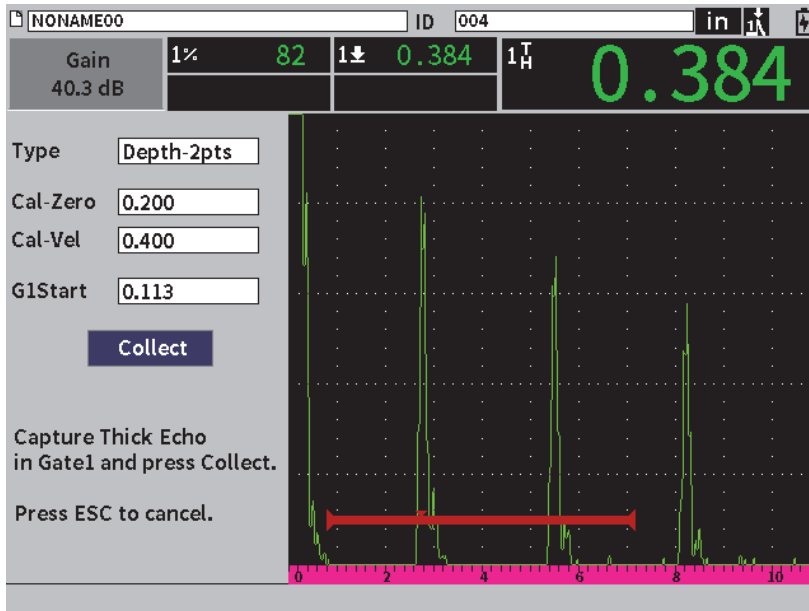

Figure 8-6 Calibration — Ready to collect thick echo
9. Press the Tab key to highlight the **Collect** button, and then press the Enter key to capture the thin echo (see Figure 8-6 on page 118).
12. Press the Tab key to highlight the **Collect** button (see Figure 8-6 on page 118).